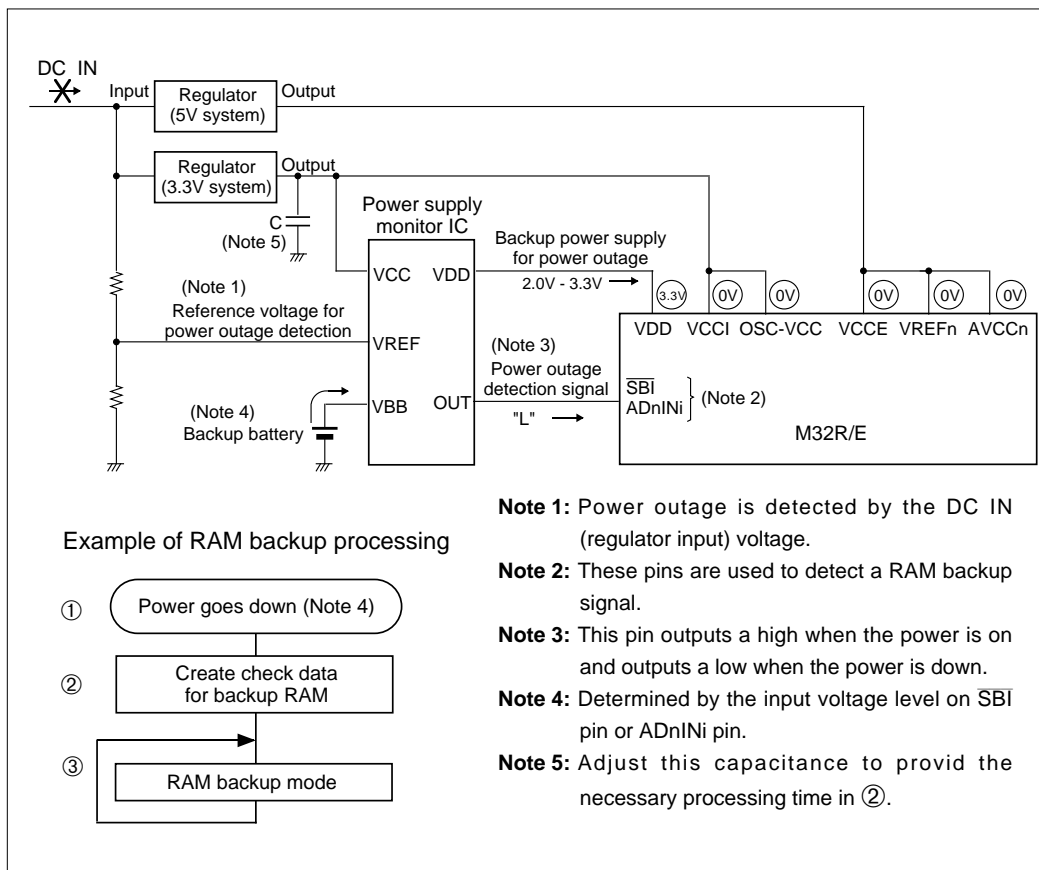

Figure 17.2.3 RAM Backup State at Power Outage
Shown in Figure 17.2.3 is the power outage RAM backup state of the M32R/E. When the power supply goes down, the power supply monitor IC starts feeding current from the backup battery to the M32R/E. Also, the power supply monitor IC's power outage detection pin outputs a low, causing the $\overline{\text{SBI}}$ pin or ADnINi pin input to go low, which generates a RAM backup signal (① in Figure 17.2.3). Whether the power is down or not must be determined with respect to the DC IN (regulator input) voltage in order to allow for a software processing time at power outage.
- (1) Create check data to verify after returning from RAM backup to normal mode whether the RAM data has been retained normally (② in Figure 17.2.3).
When the power supply to VCC goes down after settings in (1), the voltage applied to the VDD pin becomes 2.0-3.3 V and voltages applied to all other pins drop to 0 V, and the M32R/E thereby enters RAM backup mode (③ in Figure 17.2.3).
Due to settings in (1) to (3), the voltage applied to the VDD pin becomes $3.3\text{ V} \pm 10\%$ and voltages applied to all other pins drop to 0 V, thus placing the M32R/E in RAM backup mode (④ in Figure 17.2.3).